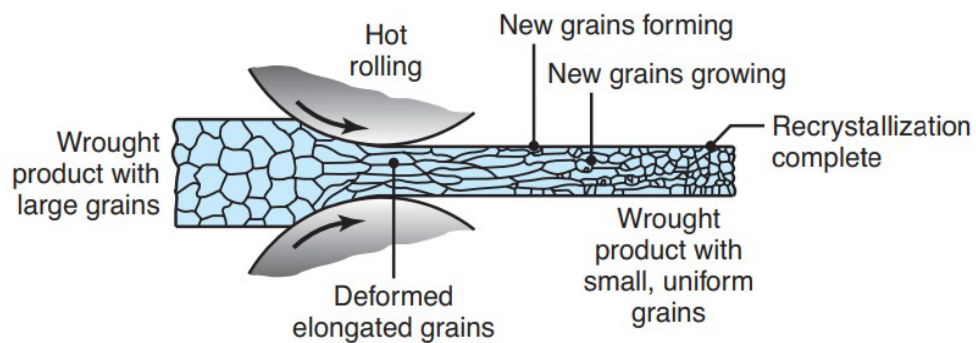

Figure 5[a]
5. [a] Hot rolling is an effective way to reduce grain size in metals for improved strength and ductility. The changes in the grain structure of cast or large-grain wrought metals during hot rolling are illustrated in Figure 5[a]. Define the word recrystallization and briefly explain the recrystallization temperature.